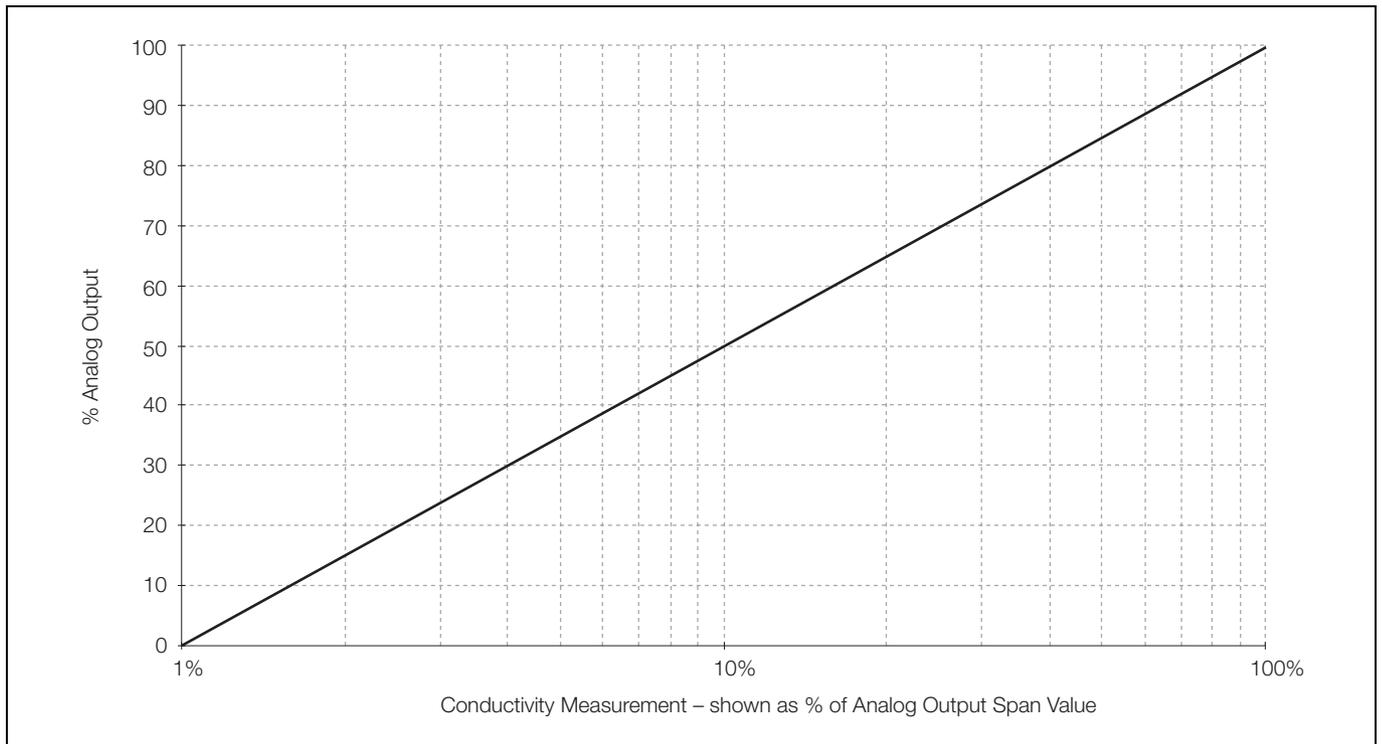

Fig. 5.7 Logarithmic Output (2-Decade)
Log. 2 – Logarithmic, 2-decades – see Fig. 5.7 on page 39
5.6.2 Logarithmic Output (2-decade) – Fig. 5.7